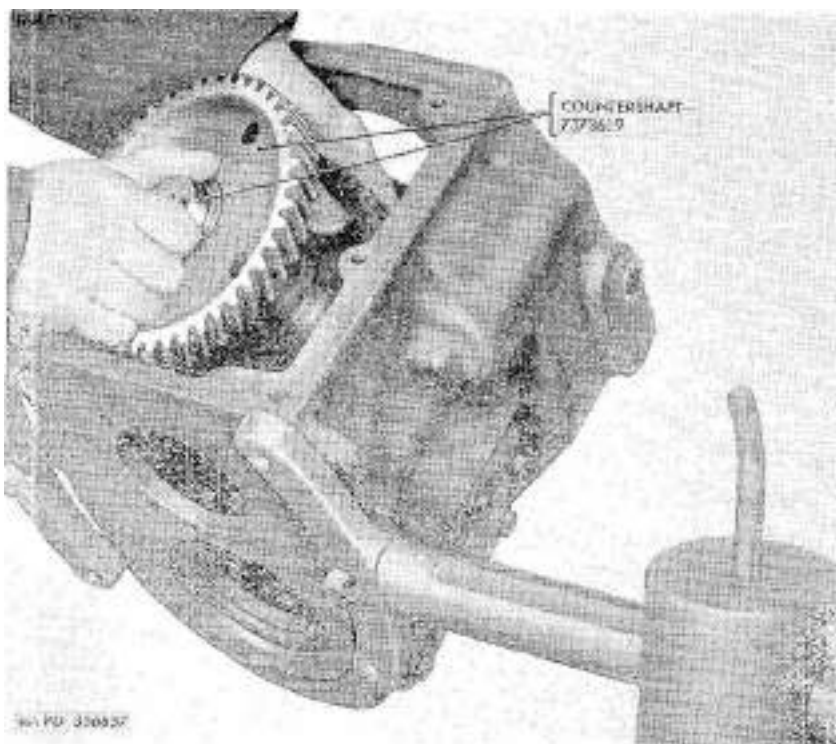

Figure 106. Removing countershaft from transmission case.
- (2) If ball bearing is a tight fit on countershaft, remove bearing with a puller. Wrap ball bearing in paper to protect it from abrasives until bearing is inspected.
- (3) Lift countershaft from case (fig. 106).
f. Remove Power-Take-Off Opening Covers and Pipe Plug. Remove $\frac{3}{8}$ -16NC x $\frac{3}{4}$ cap screws (All) $\frac{3}{4}$ -inch lock washers (AG), power-take-off opening cover (AF), and power-take-off cover gaskets (AE). Remove $\frac{3}{4}$ -inch pipe plug (AD) in filler opening.
- (1) Place countershaft (W) in transmission case (Z) (large gear forward) and extend the countershaft (*fig. 106*) out through rear bearing opening. Start countershaft front